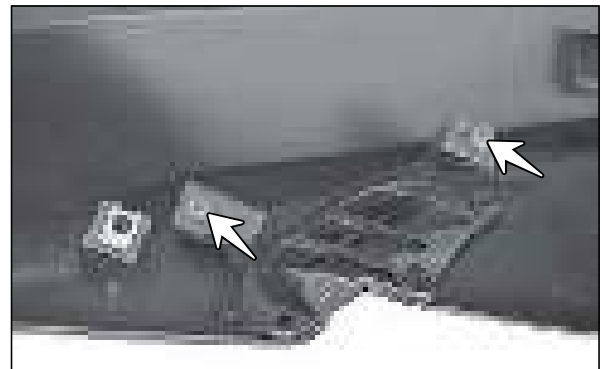

Fig. 2.22
- Remove the CRR flanged pan head tap screw (ST4.2x13 - 2 nos.) from the mounting of grill cover fuel tank R. (Fig. 2.22)